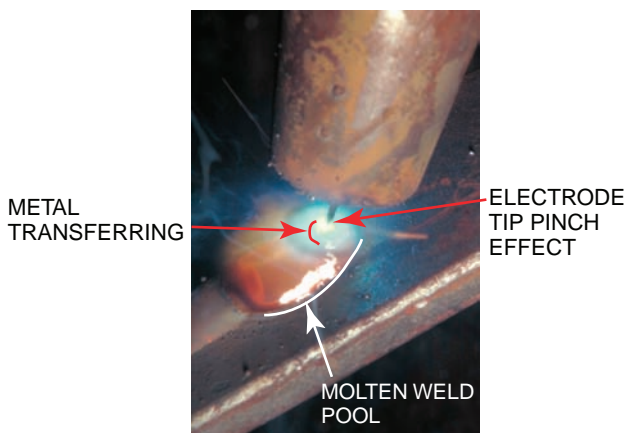

FIGURE 11-3(B) The pinch effect of filler wire; also note the symmetrical metal transfer column. Photo courtesy of Larry Jeffus.
called **axial spray metal transfer**, Figure 11-3(A) and Figure 11-3(B). This process is characterized by the pointing of the wire tip from which droplets smaller than the filler wire diameter are projected axially across the arc gap to the molten weld pool. There are hundreds of drops per second crossing from the wire to the base metal. These drops are propelled by arc forces at high velocity in the direction the wire is pointing. This projection of drops allows only limited welding in the vertical and overhead positions without losing control of transfer. In many cases, the molten weld pool may be too large to be controlled in these positions. Because the drops are very small and directed at the molten weld pool, the process is spatter free when parameters are properly controlled.